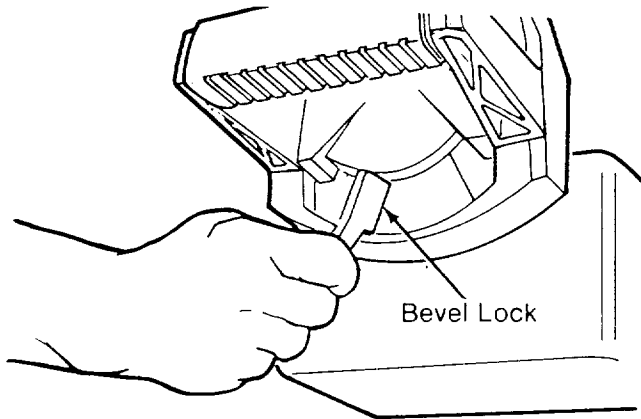

Fig. 176 - Bevel Lock - Locked
2. Position the motor at approximately 30° bevel angle and lock *bevel lock*. (Figure 176)